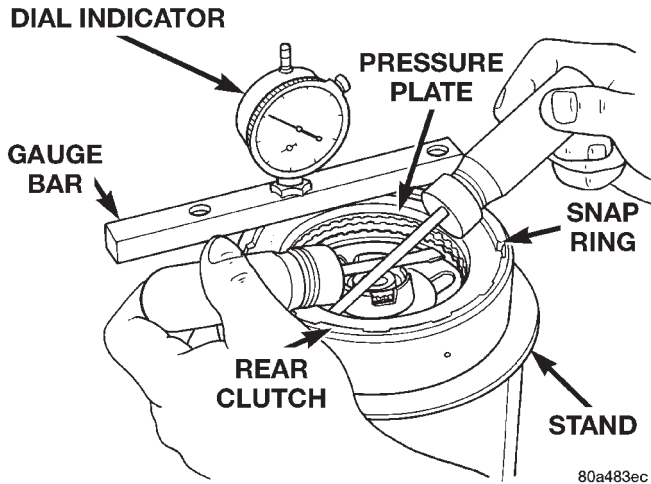

Fig. 170 Checking Rear Clutch Pack Clearance
- (13) Install top pressure plate.
- (14) Install selective snap ring. Be sure snap ring is fully seated in retainer groove.
- (15) Using a suitable gauge bar and dial indicator, measure clutch pack clearance (Fig. 170).
(a) Position gauge bar across the clutch drum with the dial indicator pointer on the pressure plate (Fig. 170).